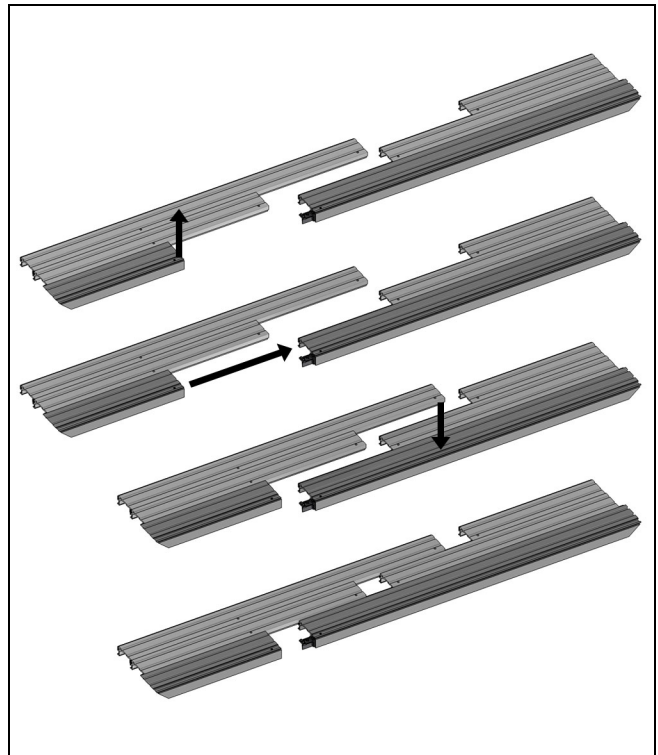

Figure 31
- 2.** Lay the head jamb parts out on a flat clean and protected surface. See Figure 31.